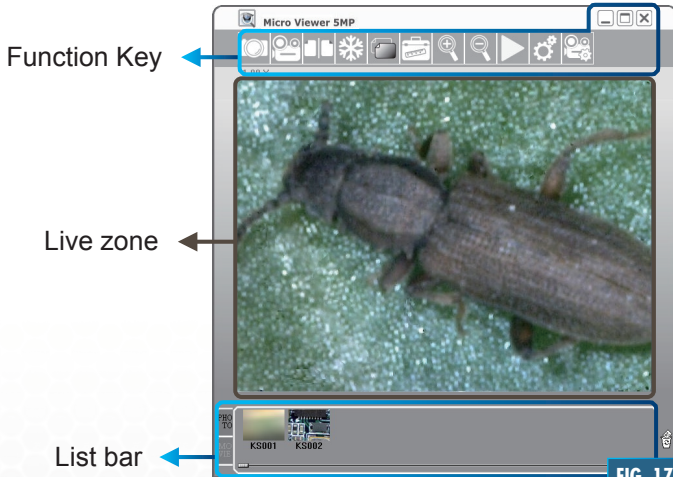

FIG. 17
2. The MicroViewer 5MP window will show up and you should see the live image from the Microscope (Fig. 17).